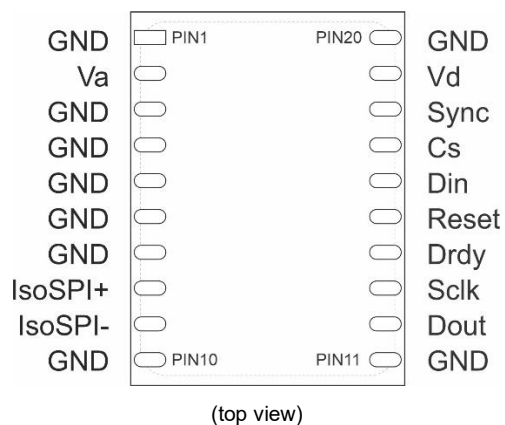

Figure 1 VT-DRM(S) pin assignment, outline drawing and dimensions.
VT-DRM(S) pin assignment and PCB outline drawing are given in Figure 1 and Table 2, while dimensions details are given in Table 1.